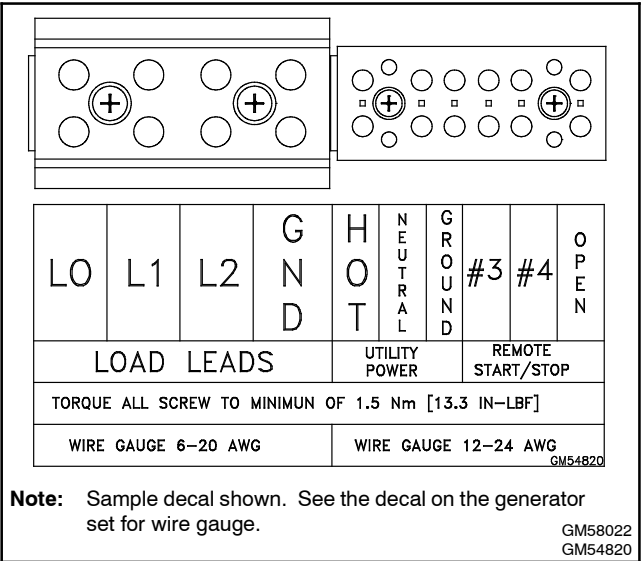

Figure 1-19 Field-Connection Terminal Block, typical
3. See Figure 1-19. Connect the leads from the transfer switch emergency source lugs to the L1 and L2 connections on the generator set terminal block.